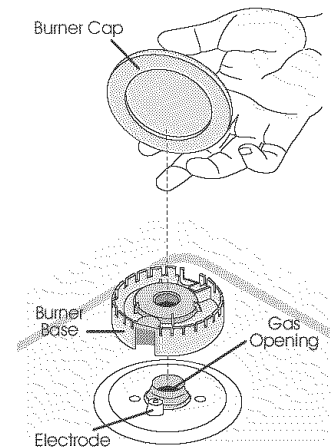

Figure 9
10.1 Install Burner Bases and Burner Caps This range is equipped with sealed burners as shown (see Figure 9).